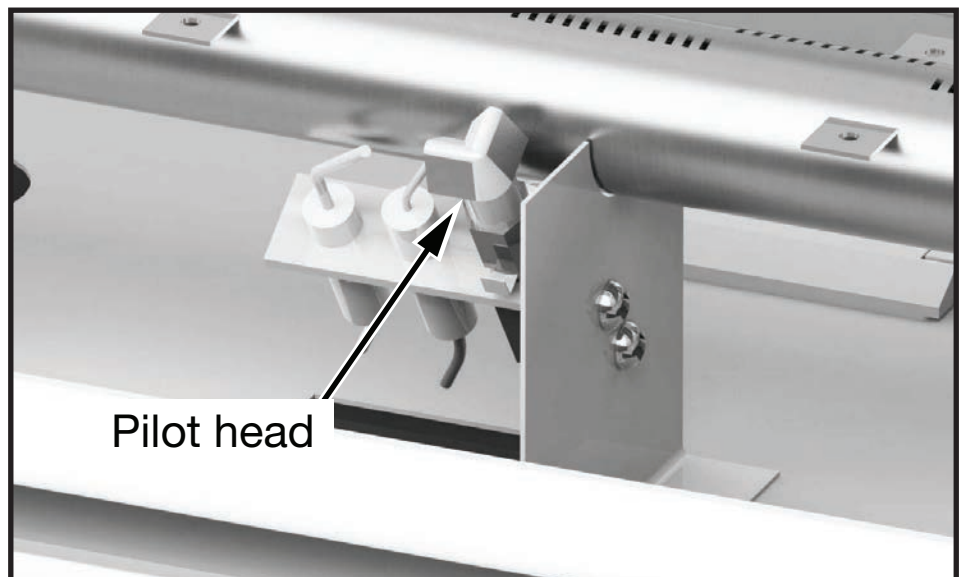
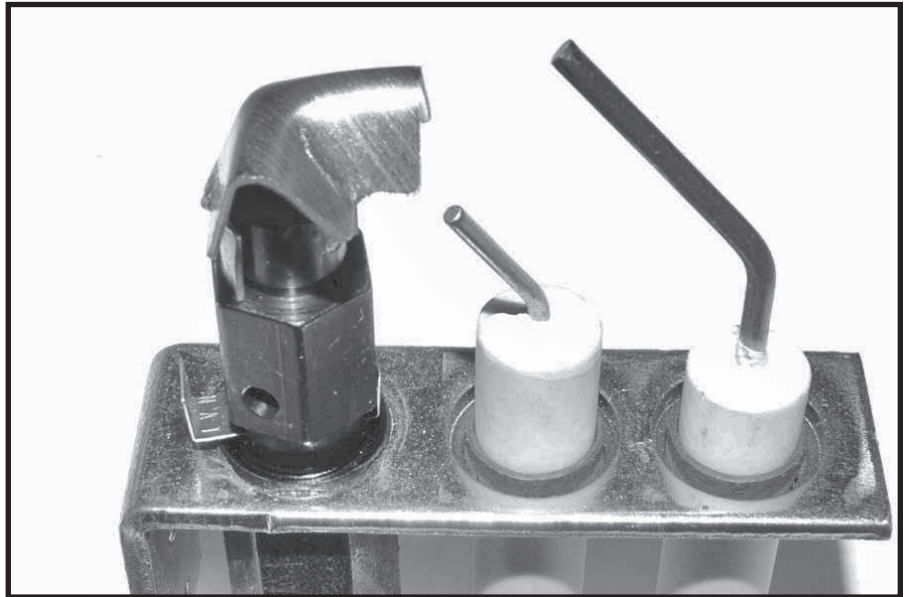

Figure 42: Pilot head.
Figure 43: Pilot band in natural gas position.
6. With a 7/16" wrench loosen the pilot head on the pilot assembly (Figure 42 and Figure 43).